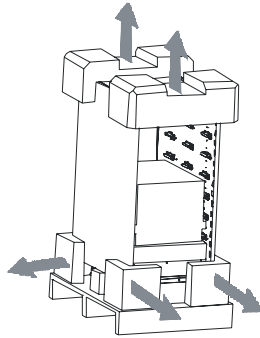

Fig. 2
2. Remove the foam from the unit (see Fig. 2); remove the plastic wrapping;